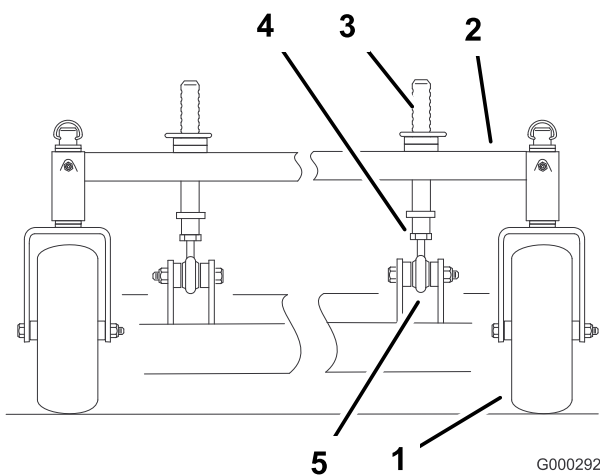

Figure 57
1. To change the front-to-rear pitch, the front height-of-cut posts can be adjusted (Figure 57).
2. To raise the front of the deck, loosen jam nut and rotate the front pin clockwise (Figure 57).
3. To lower the front of the deck, loosen jam nut and rotate the front pin counter clockwise (Figure 57).
6. Tighten the jam nuts (Figure 57).